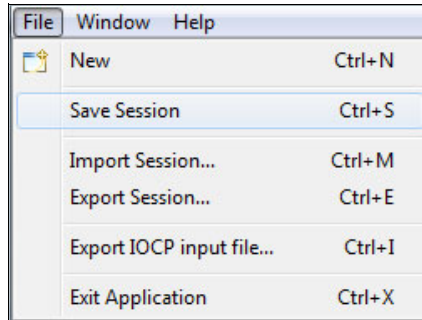

Figure 7-61 CMT - Save session
3. Select **File** → **Save Session** (Figure 7-61).